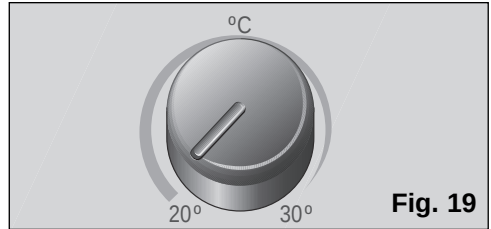

Fig. 19
- ☐ Set the thermostat to the desired temperature, **Fig. 19**. If the appliance turns itself off automatically because the temperature set for the room has been reached and, it is necessary to wait for ambient temperature to rise 2-3°C before it comes back on again.
To do this, open the flap up to the safety stop (the flap opens to a slight angle, **Fig. 19**) and pull outwards. In order to refit it, line the lower studs on the flap up with the holes on the casing until the studs meet the clips on the casing.